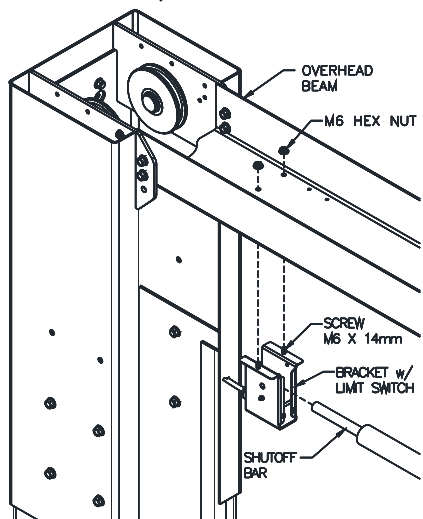

Fig. 7 – Overhead Limit Switch Power Side
- 18) Install Overhead Limit Switch to the Overhead Beam using the rear set of holes on the Power Side of the lift. Fig. 7. **Note: lay the junction in the overhead, install later.**